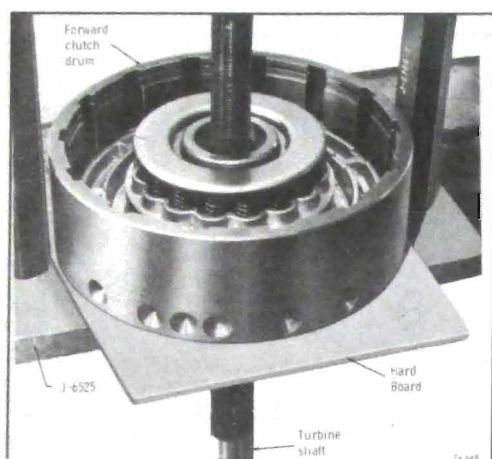

Figure 76-648
5. If necessary remove turbine shaft. See Figure 76-648.
NOTE: If turbine shaft was not removed, install retainer as shown in Figure 76-648.